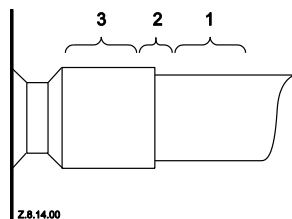

Figure 10: Suction tube brazing
**Figure 10** shows the proper procedures for brazing the suction and discharge lines to a scroll compressor.